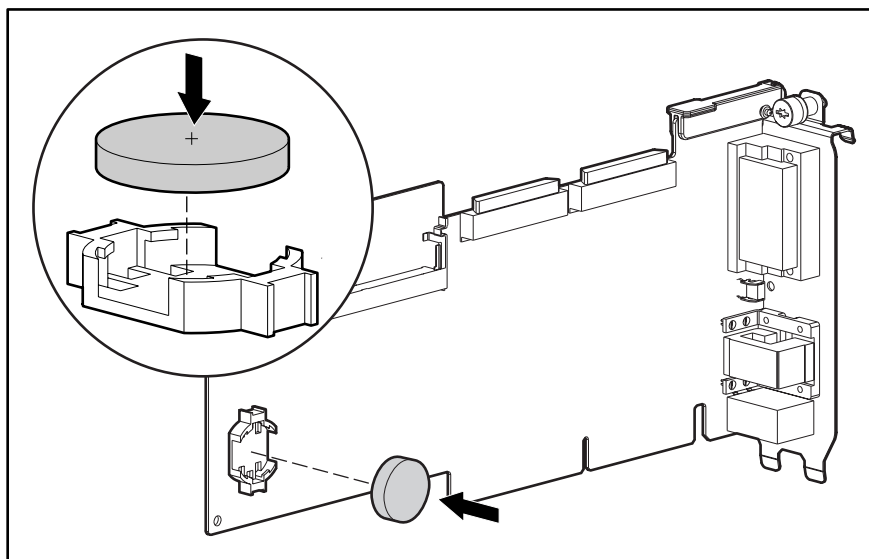

Figure 2-49. Installing the replacement battery on the peripheral board
5. Snap the replacement battery into the battery connector on the peripheral board as shown in Figure 2-49.